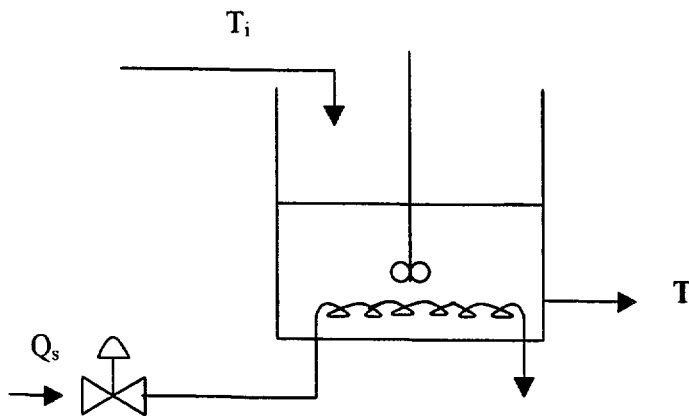

Figure 4. Stirred tank heater.
- b) The stirred tank heater shown in Figure 4 is to be controlled using a feedforward-feedback control system. The control objective is to maintain a constant temperature T in the exit stream. The input stream is coming from an upstream unit and might vary in temperature T_i . The steam input Q_s can be manipulated.